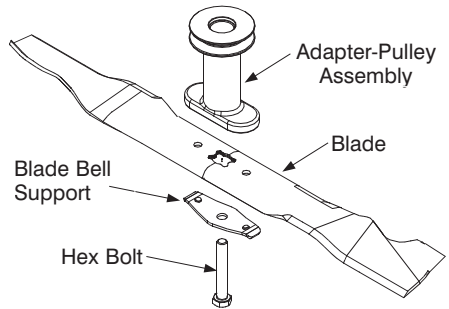

Figure 13
- Remove the bolt which hold the blade adapter-pulley assembly to the engine crankshaft. Remove the pulley assembly and the bell support from the crankshaft. See Figure 13.